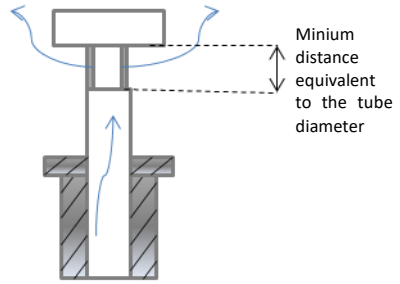

Figure 29 – Correct binding
* Under rated operating conditions, the circulation of combustion gases should create a draught of 12 Pa about one metre above the chimney throat. For proper installation, at least 2 metres of metal flue tubing, with the same diameter as the unit's smoke outlet, should be fitted vertically above the unit. Additional lengths to this tubing may use piping sections with a max angle of 45°. Figures 29 and 30 illustrate the correct and incorrect angles for pipe elbows, should they need to be installed.